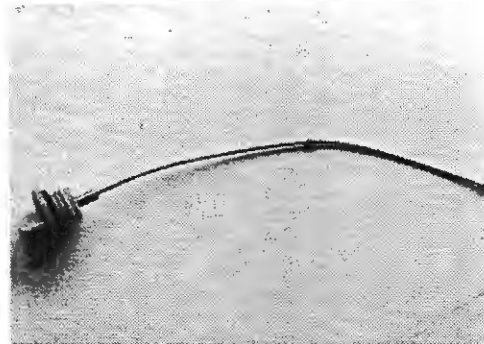

Figure 4.3
12. Shut off the engine and let the motorcycle sit for one minute. Remove the filler cap and check the oil level by wiping off the wire dipstick with a clean rag and dipping it back into the frame. If the oil level is between the two indicator marks, the oil level is correct. Add oil as necessary to achieve the correct level. (Figure 4.3)